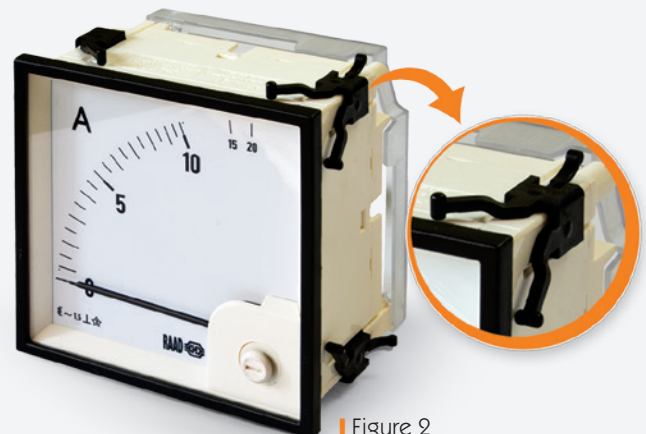

Figure 2
- Having kind of clips on the back of meter to simple fixing on the panels without using any special tools. (See figure 2)